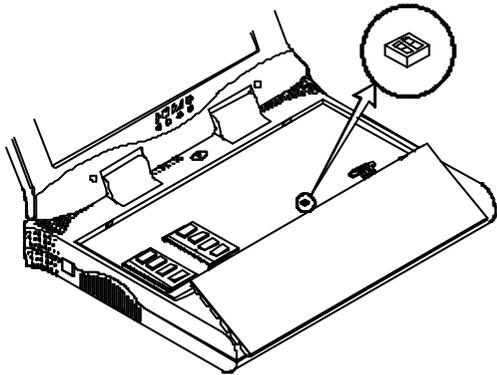

Figure 2-6.2
- Carefully lift the keyboard assembly out so that the mainboard is exposed. Employ the 2pole DIP Switch to set the configuration (Figure 2-6.2)